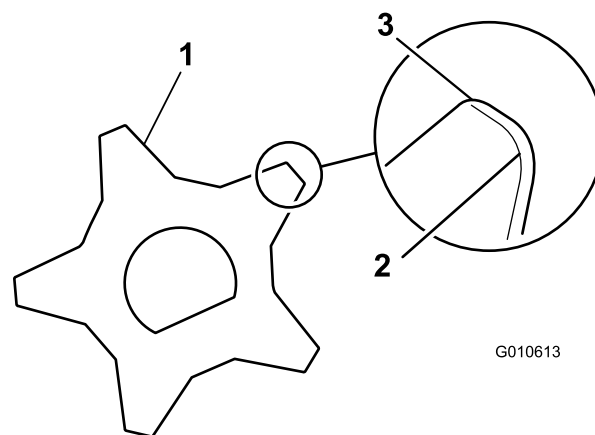

Figure 37
13. Assemble the shaft in reverse order so that the sharpest edge of the blade is forward (Figure 37).